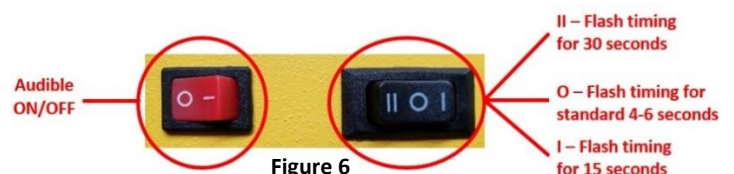

Figure 6
13. Using the Imminent Danger feature (see figure 6 for reference):